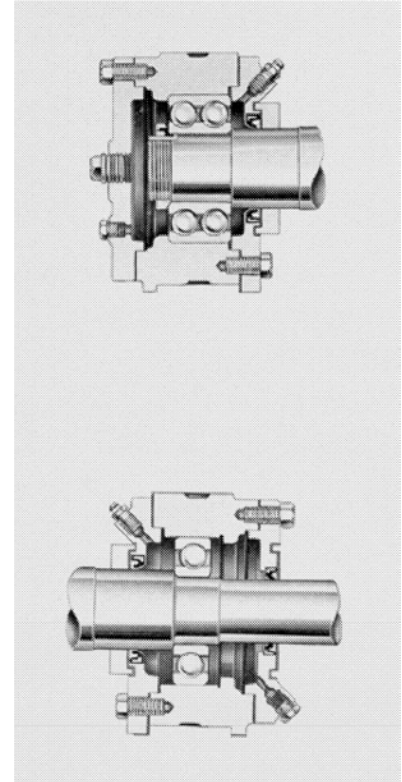

Figure 32: Grease lubricated ball bearings
1. Remove relief plugs on bearing end covers. See Figure 32: Grease lubricated ball bearings on page 37